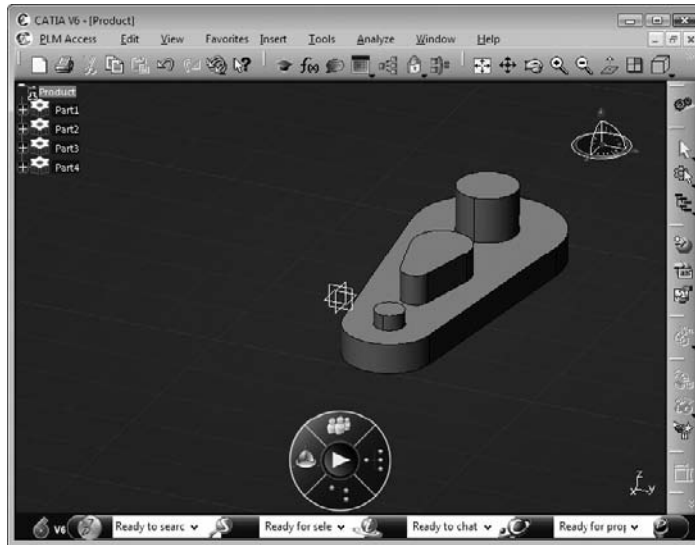

FIGURE 4.21
12. Repeat steps 5 to 9 to add the fourth component, **Part4**, to the **Product** assembly, as shown in **Figure 4.21**: